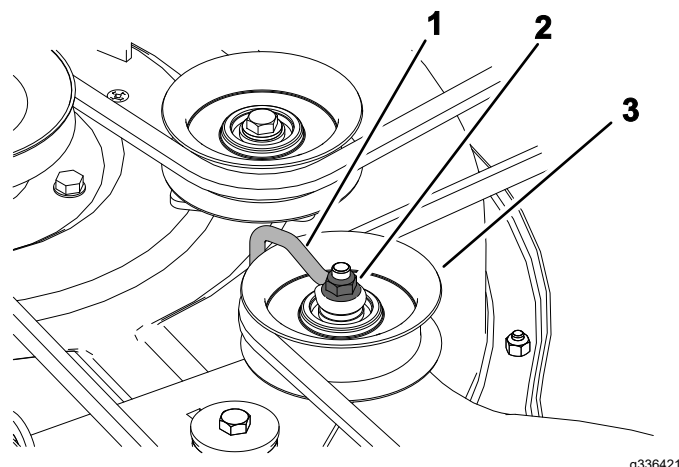

Figure 51
2. Screw (3)
5. Loosen the nut securing the wire form to the idler pulley (Figure 51).
Note: Position the wire form against the idler arm as shown in Figure 51.